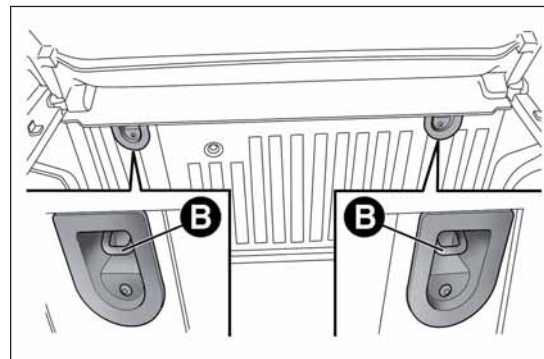

fig. 102
- ❑ fix the upper belt (available together with the seat) to the special attachments B fig. 102 located in the rear part of the backrest.